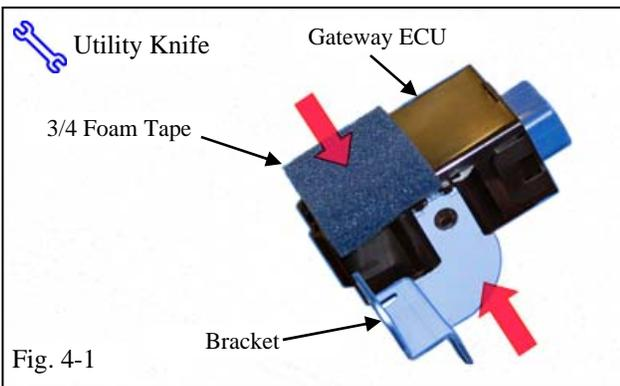

Fig. 4-1
- (a) Apply 3/4 small piece of Foam Tape to the Gateway ECU as shown. (Fig. 4-1)
- (b) Attach the Gateway ECU Bracket to the Gateway ECU as shown. (Fig. 4-1)